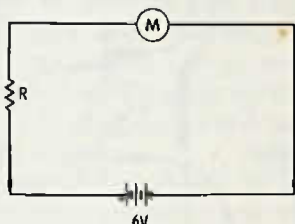

Fig. 9-20. Circuit for Questions 5 and 6.
5. Fig. 9-20 is the circuit of a 20,000 ohms-per-volt voltmeter. For the meter to be reading full scale what should the size of resistor R be?
6. In Fig. 9-20, suppose the meter were reading only half scale. What size would resistor R be?